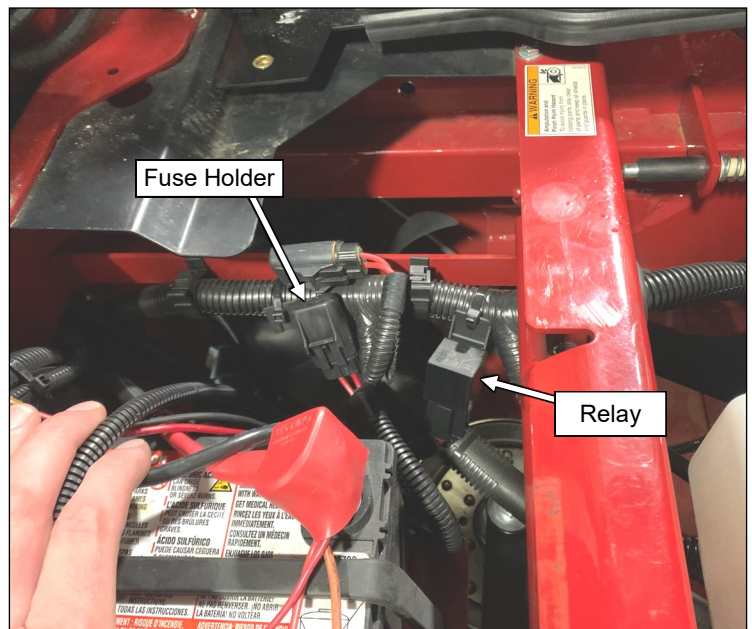

Fig. 1.6 (Secure Relay and Fuse Holder)
- 1.6 See fig. 1.6. Cable tie the relay and fuse holder to the vehicle as shown with the wires aiming downwards to shed water.